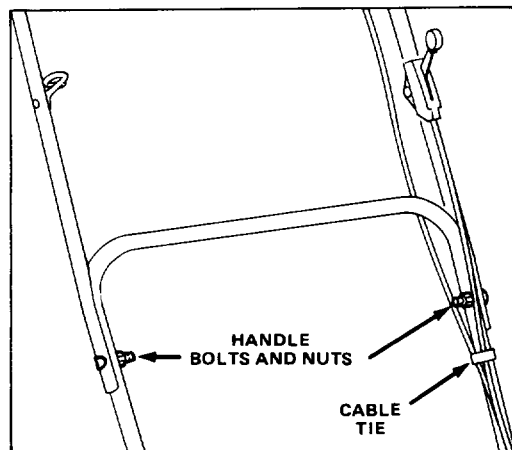

Figure 2
2. UPPER HANDLE (Fig. 2) — Secure upper and lower handles in place with handle bolts and locknuts. Control cables must be in front of lower handle cross member. Secure control cables in position with cable tie.